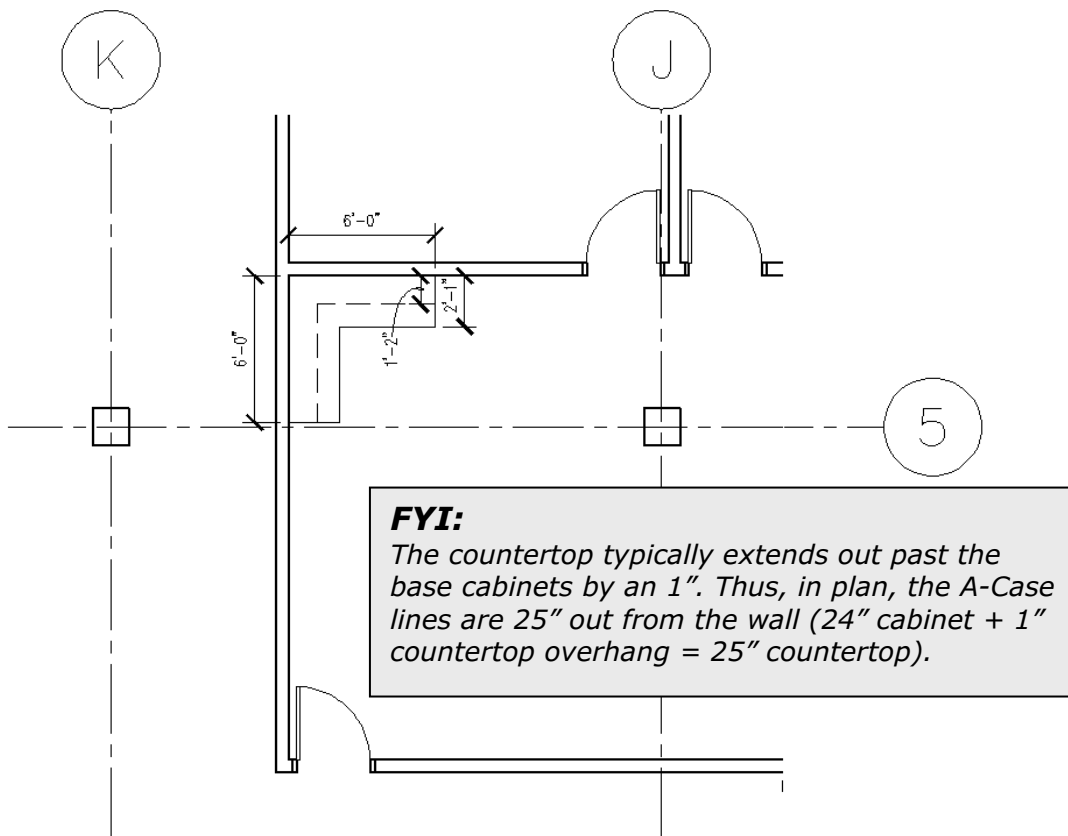

Figure 4-2.1 Drawing the work area casework
1. Draw the casework shown in Figure 4-2.1, *plus*: